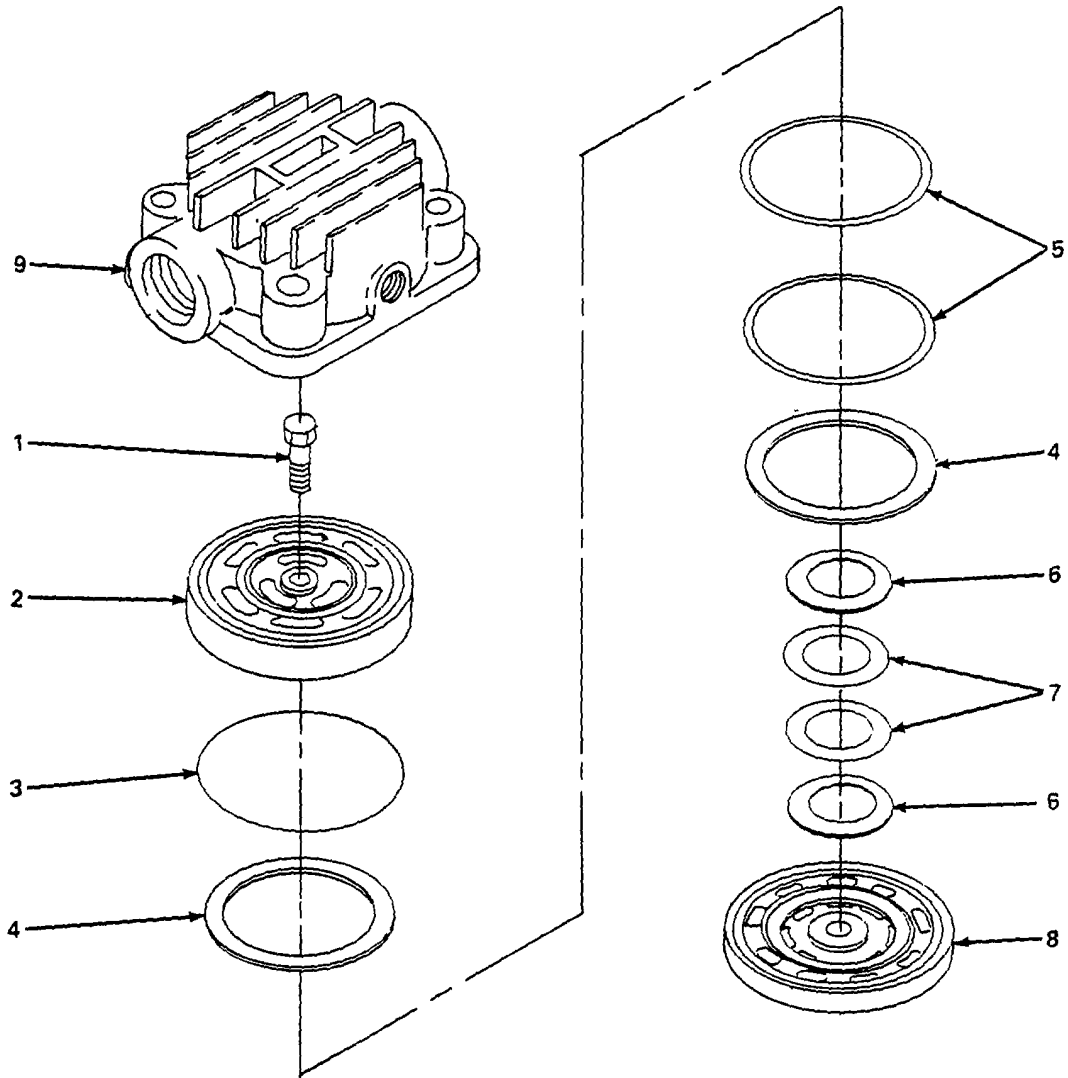

Figure 5-30. Valve Head and Valve Assembly, Repair.
- (1) Install inlet filter and adapter assembly (para. 4-17).
- (2) Install storage tray (para. 4-15).
b. Repair. (figure 5-30)
- (1) Remove valve head and valve assembly (para. a.).
- (2) Remove bolt (1), upper valve body (2), preformed packing (3), two plates (4), rings (5), two plates (6), and rings (7) from lower valve body (8). Discard preformed packing (3).
- (3) Clean all items with TSP ultrasonic cleaner. Ensure all carbon and dirt deposits are removed. Dry all components thoroughly.
- (4) Inspect valve head (9) and replace if cracked.
- (5) Inspect upper (2) and lower (8) valve bodies and replace if cracked, worn, or otherwise damaged.
- (6) Inspect plates (4) and (6) and replace if scored, excessively worn, bent, or otherwise damaged.
- (7) Inspect rings (5) and (7) and replace if scored, excessively worn, bent, or otherwise damaged.